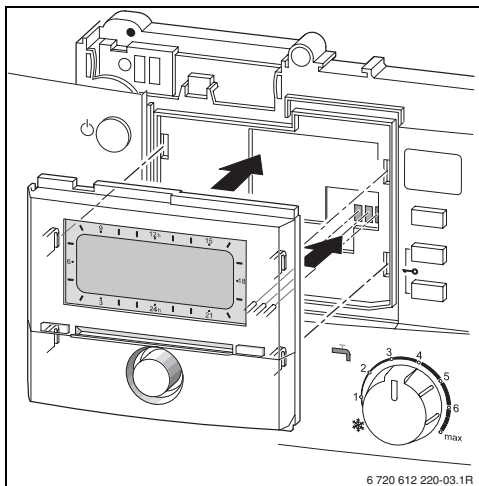

Fig. 8
- Installation of the controls automatically produces BUS connection via the three contacts (→ Fig. 8 on page 14).